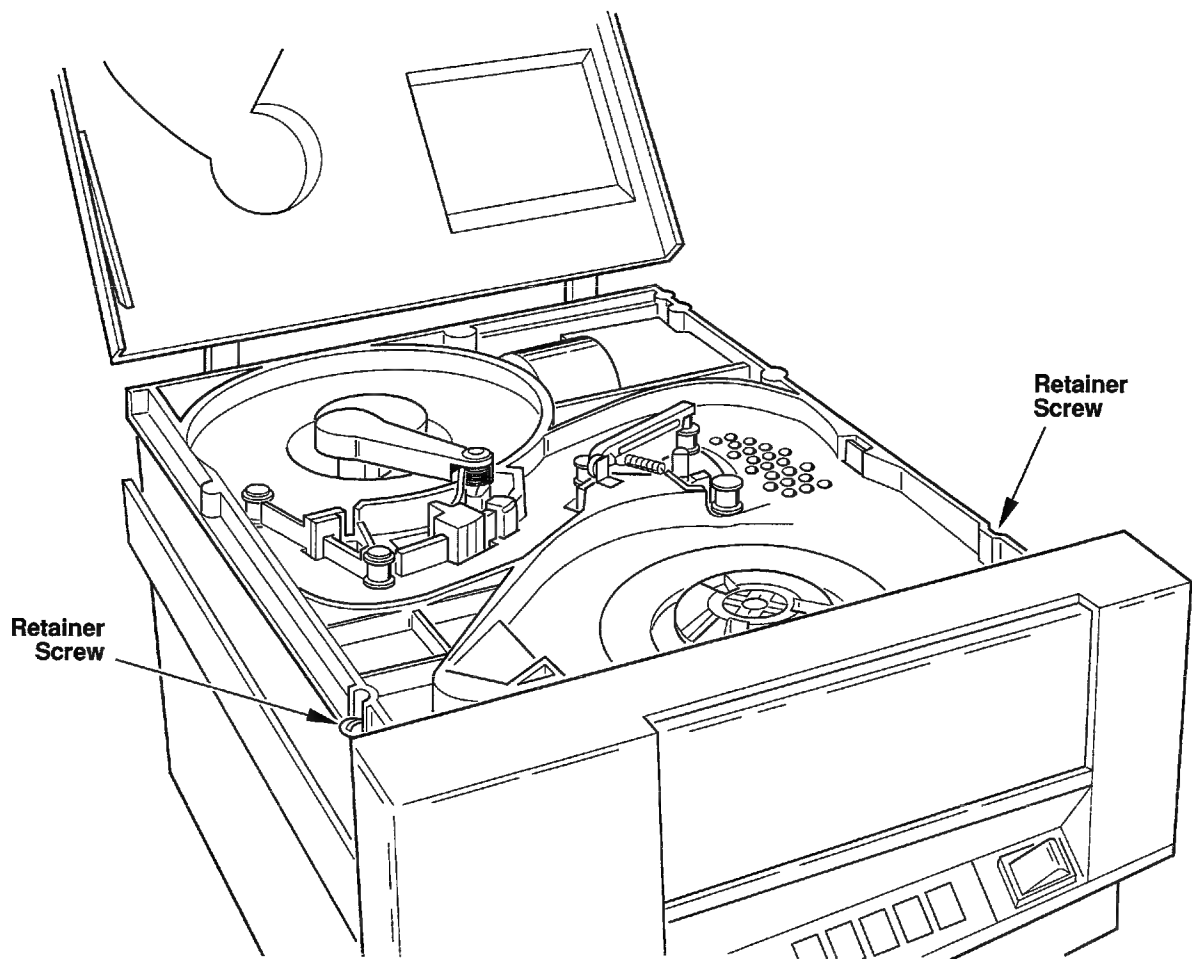

Figure 1-3. Location of Deck Plate Retainer Screws
4. Loosen, but do not remove, the two screws on each side of the deck plate. See Figure 1-3.
3. Loosen, but do not remove, the two screws on each side of the deck plate. See Figure 1-3.